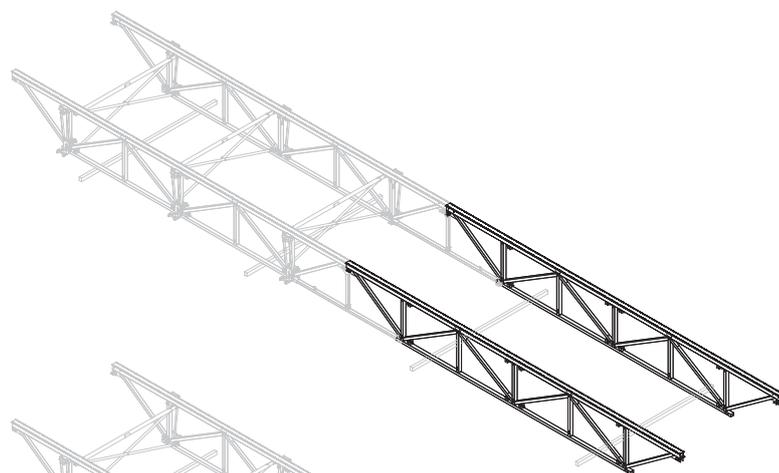

Fig. A2.09
3. Bring other Truss Girder STT into position and fix to the top and bottom chords using two pins and cotter pins respectively. (Fig. A2.09)